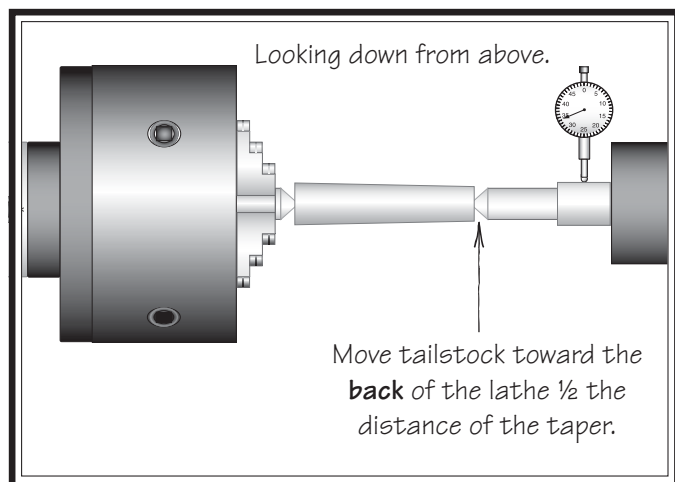

Figure 45. Adjust tailstock away from the operator.
- If the test stock is *thinner* at the tailstock end, move the tailstock toward the *back* of the lathe $\frac{1}{2}$ the distance of the amount of taper (see **Figure 45**).